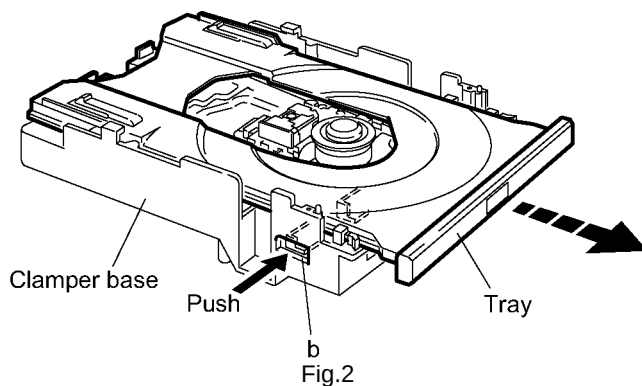

Fig.2
3.1.2 Removing the tray (See Fig2. and 3)
Before reattaching the tray, slide the part **c** of the slide cam to the right as shown in Fig.2.